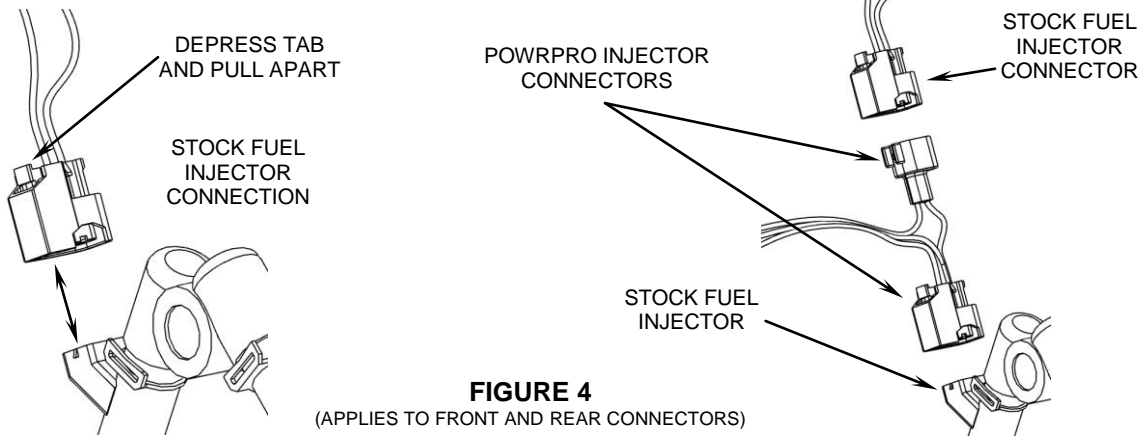

FIGURE 4
5. Route the injector harness to the front and rear fuel injectors located between the cylinder heads, along the right side of the upper frame backbone. Place the harness in the plastic harness channel provided along the frame. Locate the factory connector on each fuel injector. Depress the clip on the connector and pull the connector free and move it out of the way. **Note:** A pair of needle nose pliers and a long flat blade screwdriver helps with this job. Attach the pair of Powrpro module's injector plugs labeled "FRONT" to the front injector. Take the original HD connector and insert the corresponding Powrpro connector into it, refer to Figure 4.
6. Attach the Powrpro module's remaining injector plugs labeled "REAR" onto the rear injector. Then take the original HD connector and insert the corresponding Powrpro connector into it, refer to Figure 4. Secure the Powrpro injector harness to one of the existing HD harnesses, at the front of the plastic harness tray, along the frame rail, under the tank, using the supplied 4" zip tie.